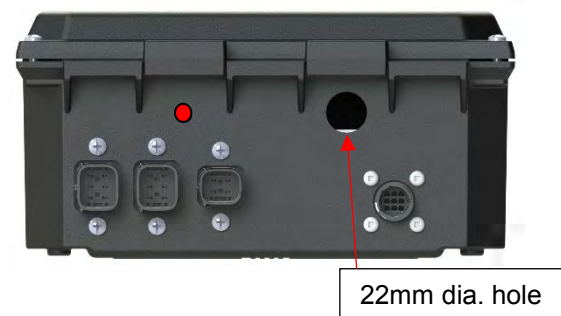

Figure 104
- A certified electrician must install a conduit connector that will be type 3 enclosure rated (*not included*). The hole diameter on the box is 22mm (Figure 104). Refer to the *Wiring Diagram* in the *Appendix* section
- 4) Unpack the key switch and plug the harness into the AC control box. (Figure 104)